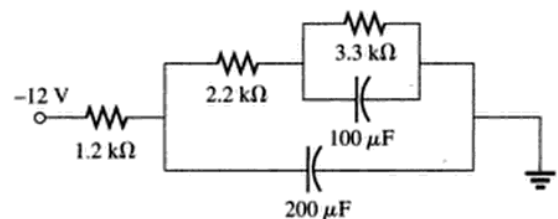

FIG. 10.124
- *55. For the network in Fig. 10.124, determine the energy stored by each capacitor under steady-state conditions.